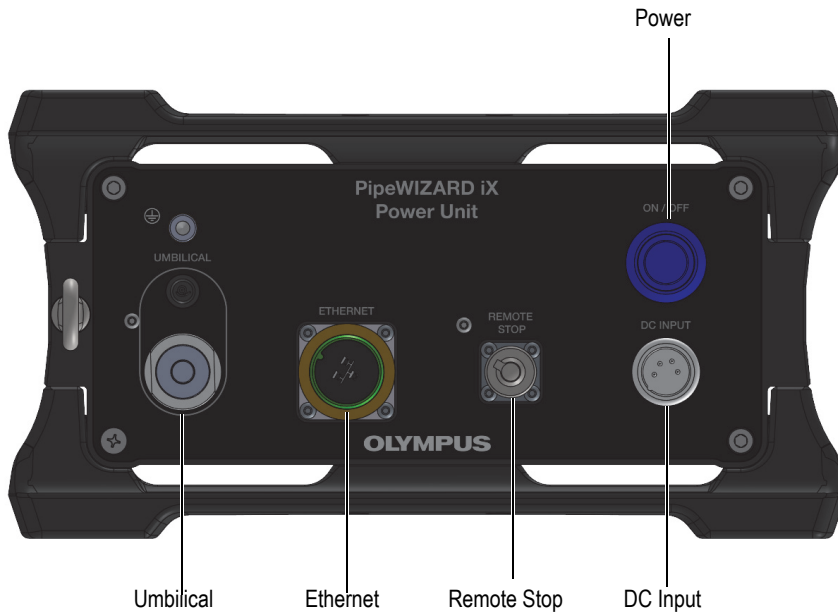
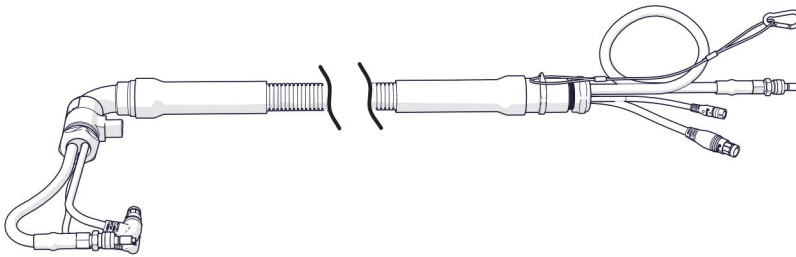
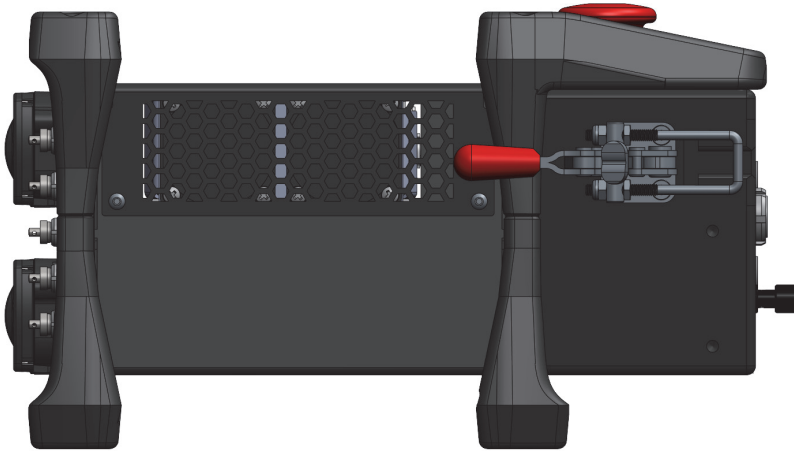

Figure 1-2 Power unit connections and power button
Figure 1-3 PipeWIZARD iX umbilical line
Figure 1-6 Acquisition Unit right side
The connectors on the power unit (see Figure 1-2 on page 25) consist of the following:
The umbilical cable (see Figure 1-3 on page 26) is a sturdy cable that consists of the power cable, the data cable, and a water hose for the couplant. To allow the scanner to move freely along the circumference without bending the umbilical cable, one end has a swivel elbow. One end of the umbilical is designed to be attached to the front panel of the power unit (see Figure 1-2 on page 25) and includes a carabiner, while the other end of the umbilical is designed with a latch to secure it to the right panel of the acquisition unit (see Figure 1-6 on page 30). Different lengths for the umbilical are available (see Table 12 on page 117).
2. Connect the two umbilical connectors to their ports on the front panel of the power unit (see Figure 1-2 on page 25) and the quick-connect water hose to the water pump.
4. Align the groove of the strain relief section of the umbilical with the receptacle on the acquisition unit (see Figure 1-6 on page 30).
The PipeWIZARD iX Acquisition Unit right side panel (see Figure 1-6 on page 30) provides the following functionality: